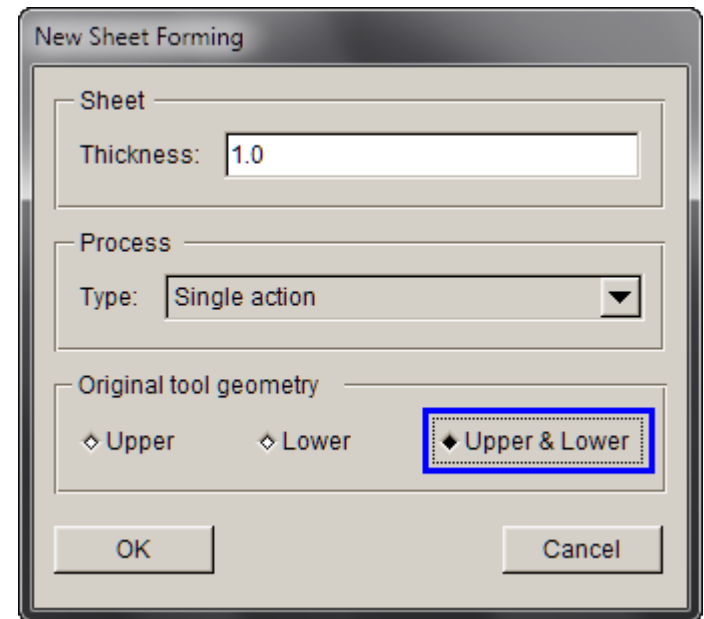

Figure 3
3. Define the new simulation as illustrated in Figure 3.